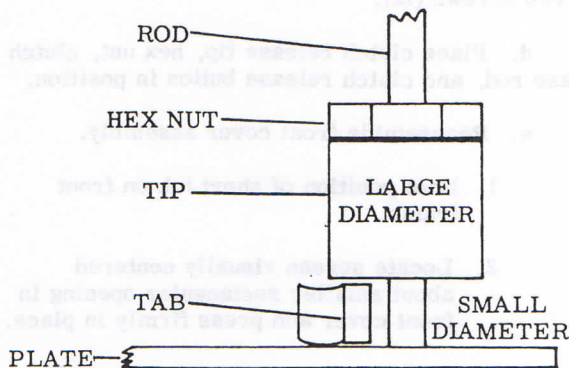

Figure 1-11E. TAB SETTING
m. Tab of latch assembly must be positioned as shown in figure 1-11E. If tab is not in position, repeat steps h thru j.